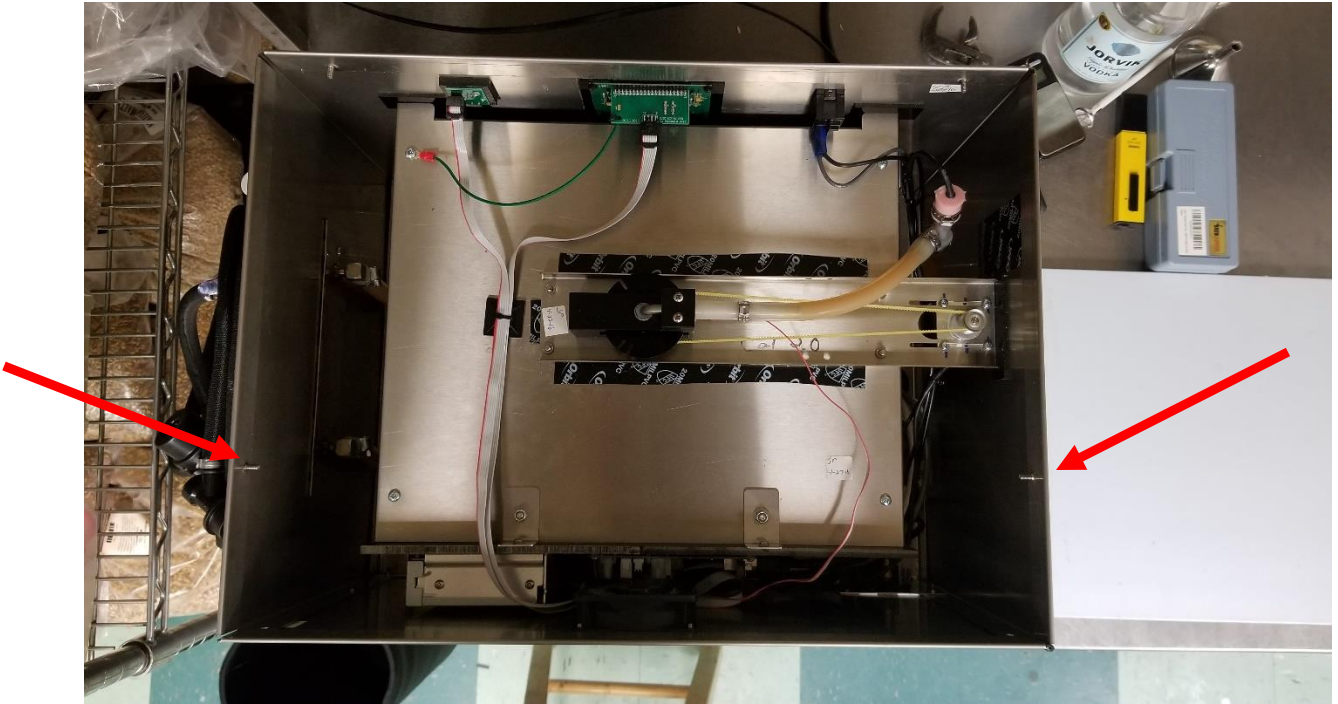

Figure 2
7. Remove the two nuts inside of and on the upper rear of both side panels. See Figure 2.